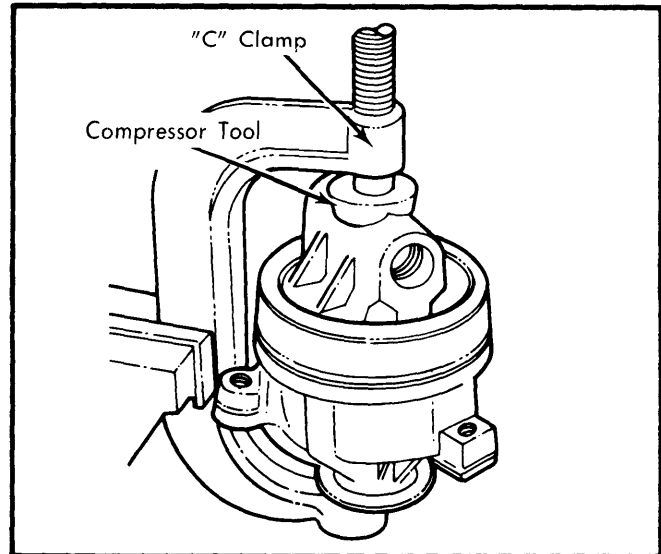

Fig. 2 Installing Compressor Plate Tool
4) Place pump in "C" clamp with rotor shaft facing down. Install suitable upper compressor plate tool (T78P-3733-A1) between top of clamp and pump and tighten. See Fig. 2.